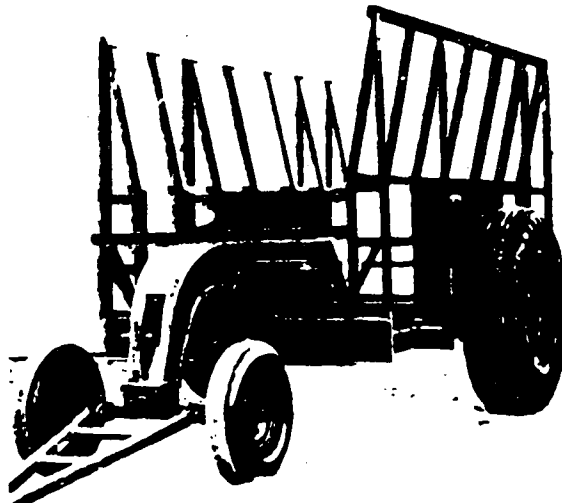

Fig. 3
*Two-axle type.* The rear axle is fixed; the front one allows the change of direction. It is easily hooked to the tractor and the weight of the load is distributed over the wheels. In the sugar-cane crop, trailers of the type shown in Fig. 3 are used. They are a variation of the previous type. They have coupling devices which allow part of the load to be shifted to the rear axle of the tractor. This ensures more grip to the ground.